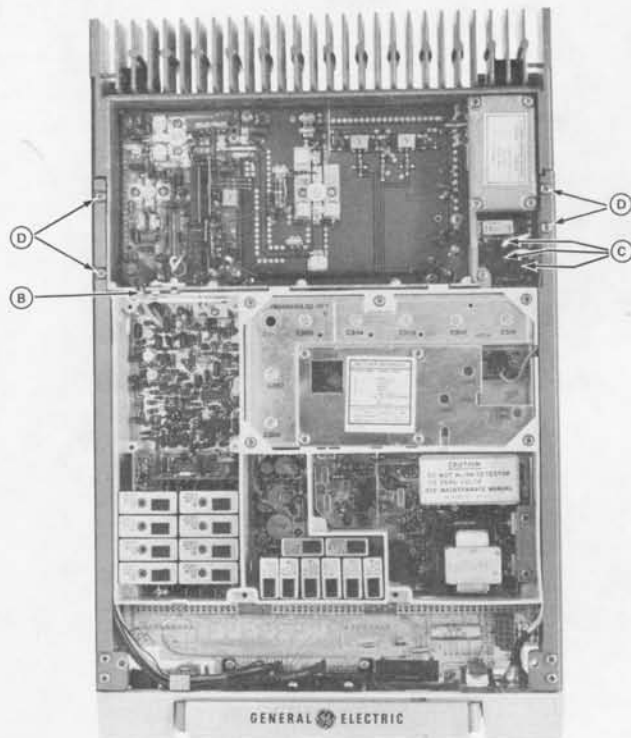

Figure 2 - Disassembly Procedure
| Figure 2 - Disassembly Procedure (Top View) | 3 |
2. Remove the top cover, then loosen the two bottom cover retaining screws and remove the bottom cover (See Figure 2).
1. Unplug the exciter/PA cable (B). (Figure 2).
To remove the PA assembly: (See Figure 2).